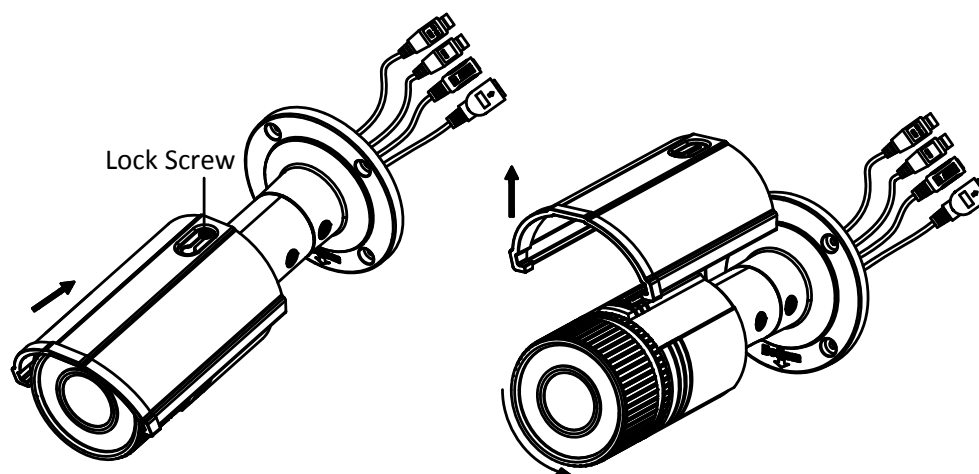

Figure 6-25 Disassemble the Camera
1. Loosen the lock screw on the sun shield to slide the sun shield according to the arrow direction as shown in Figure 6-25 (left).
2. Remove the sun shield according to the arrow direction as shown in Figure 6-25 (right).
3. Remove the front cover by rotating it counterclockwise as shown in Figure 6-25 (right).